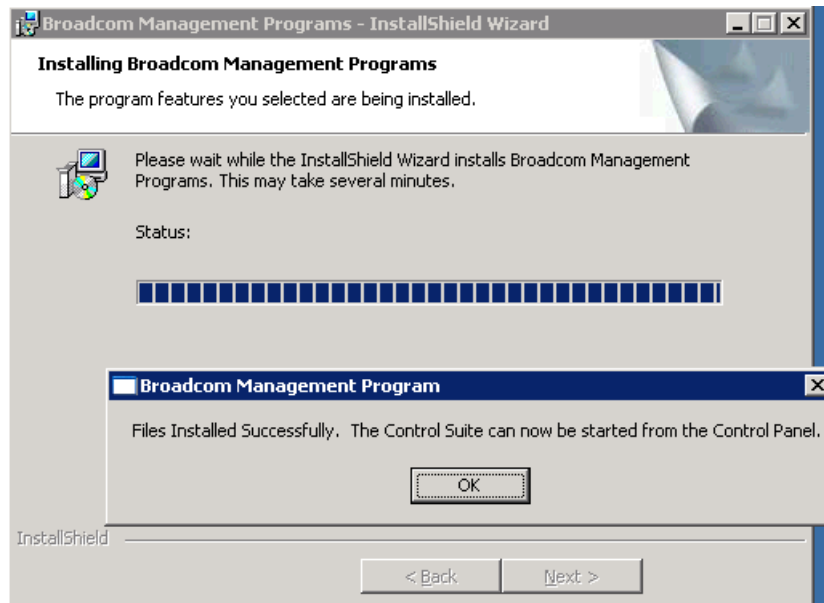

Figure 5-28 Success window
5. The files are installed successfully (Figure 5-28). There is now a BASC control suite icon in the taskbar. Click **OK** to continue.